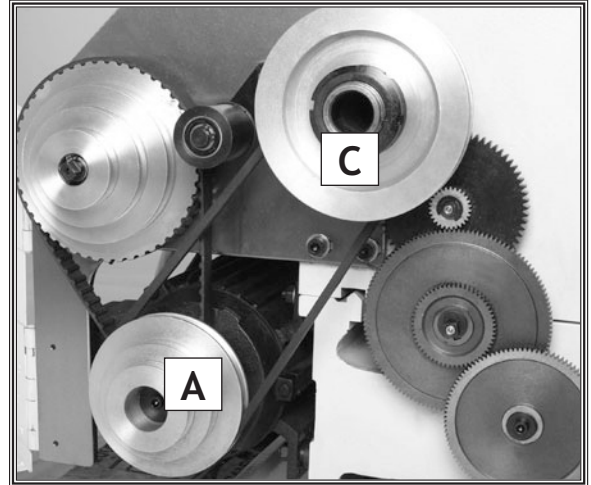

Figure 41. High-range belt position (A-C).
- If the high range belt (**Figure 41**) needs to be replaced, carefully roll the belt off of pulleys **A** and **C** and reinstall the new one.